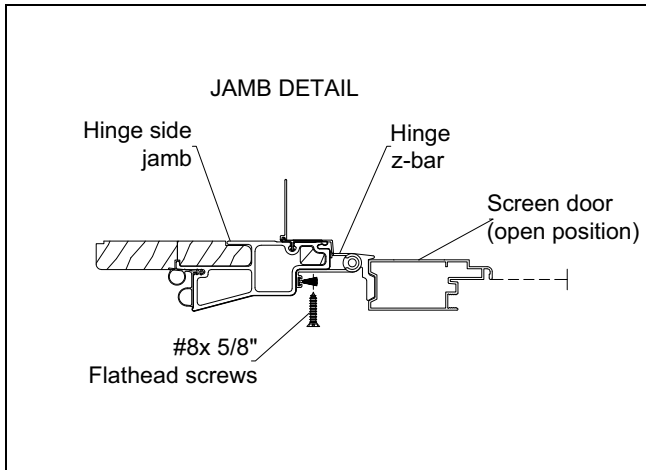

Figure 2
2. With head jamb z-bar in place, position the screen panel with hinge side z-bar in the door frame. Align the hinge z-bar miter with the head jamb z-bar miter. Drill a 7/64" hole through the first layer of Ultrex using the pre-punched holes in the z-bar as a guide. Secure hinge jamb z-bar with a #8 x 5/8" mounting screw. See figure 2. Check for proper alignment and adjust as necessary. Once the z-bar is positioned properly drill the remaining holes and attach with mounting screws.